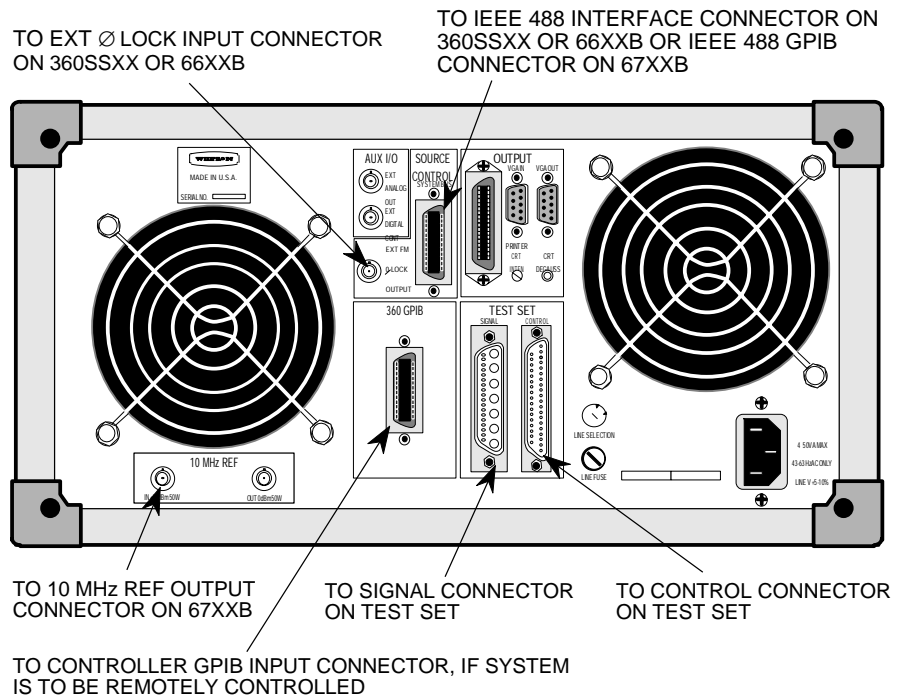

Figure 2-1. 360B Vector Network Analyzer Rear Panel
- b. Install the interconnect cables as shown at left and in Figures 2-1 through 2-5. For test set models 3613A and 36123A, connect the 40-5x Auxiliary Power Supply* to the rear panel AUXILIARY POWER INPUT connector.
- c. Secure the Writing Surface rails to the tapped hole in each rail guides (15). Use two 10-32 x 1/2-inch screws, two #10 split-lockwashers, and two #10 flatwashers from the attaching-parts kit.
Illustrations of the equipment rear panels are given in Figures 2-1 through 2-6.
- a. Install the Retainer Clips (7) on the rear of the Support Brackets and secure the three instruments. Use 8-32 Kep nuts and #8 flatwashers.
- c. Connect the Line Cords on the Analyzer and Source (8) to the ac receptacle.